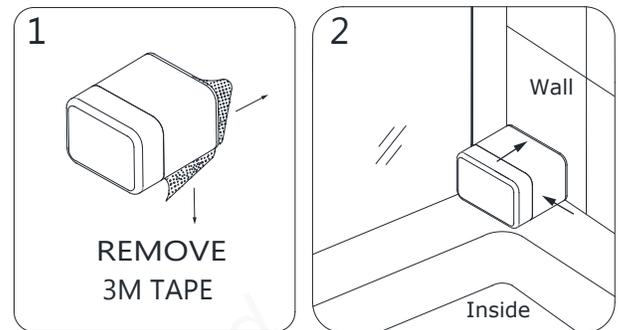

Fig 27
27. To install the **SafeStop™ Bumper (#26)** with the **3M tape**: Remove the **3M Tape** backing and position the **SafeStop™ Bumper (#26)** onto the threshold against the **U-Channel (#01)** on the stationary panel side of the installation. (**Fig 27**)